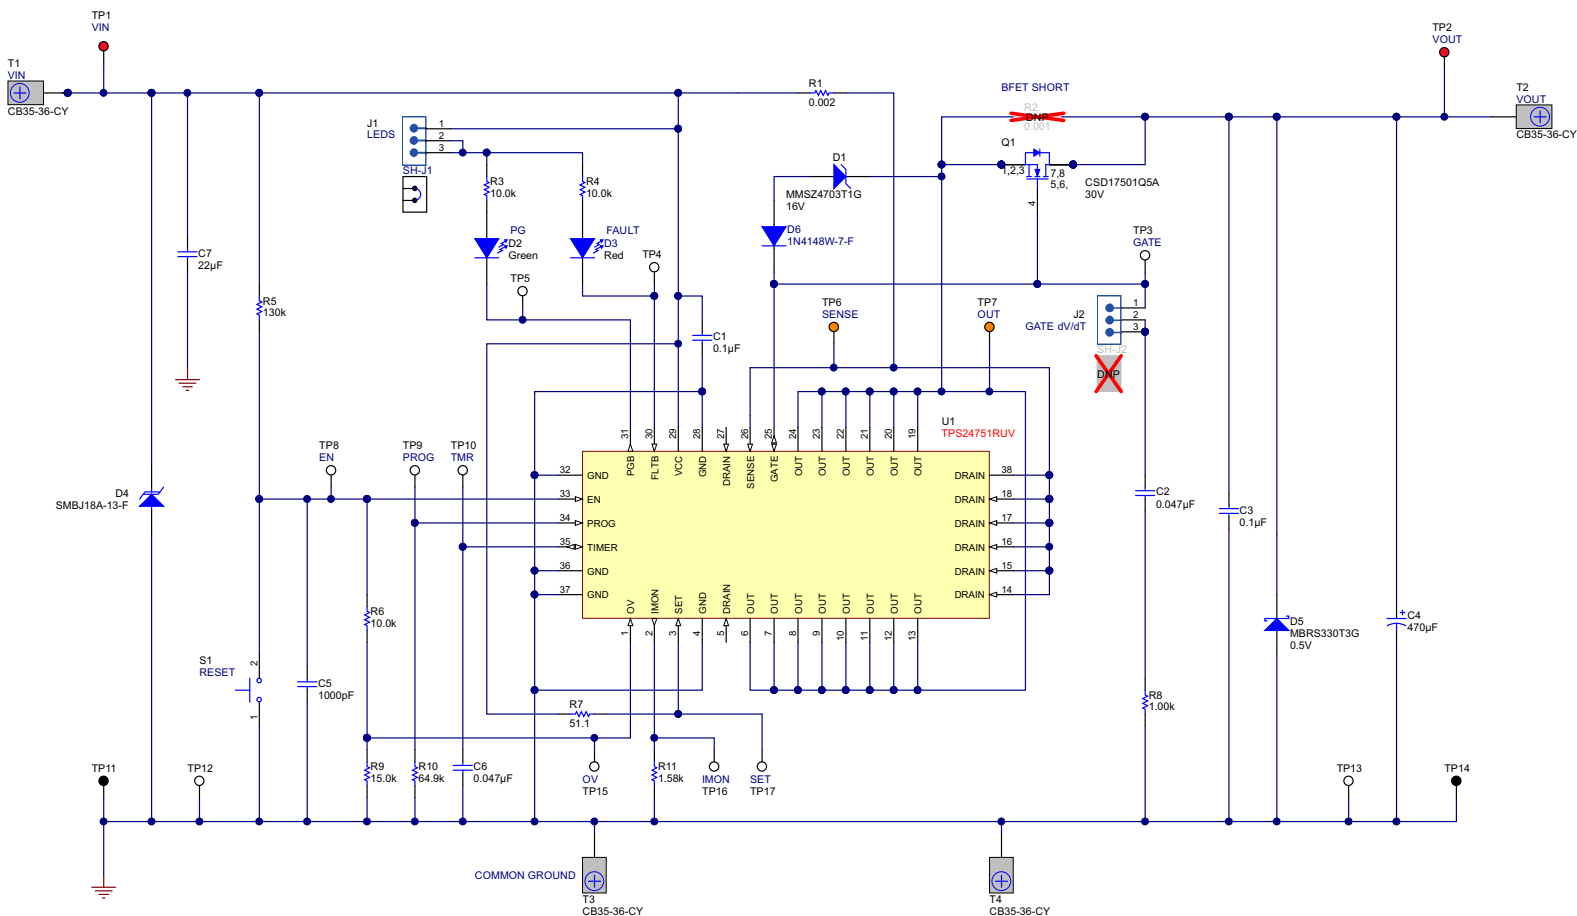

Figure 1. TPS2475XEVMSchematic
The TPS2475XEVM-546 enables full evaluation of the TPS2475X devices, refer to the schematic shown in Figure 1. Input power is applied at T1/T3 while T2/T4 provides the output connection to the load. D4/C1/C7 provides input protection for the TPS2475X (U1) while D5/C3/C4 provides output protection. S1 allows U1 to be RESET or disabled. A power good (PG) indicator is provided by D2 and circuit faults can be observed with D3.
The schematic for the EVM is shown in Figure 1